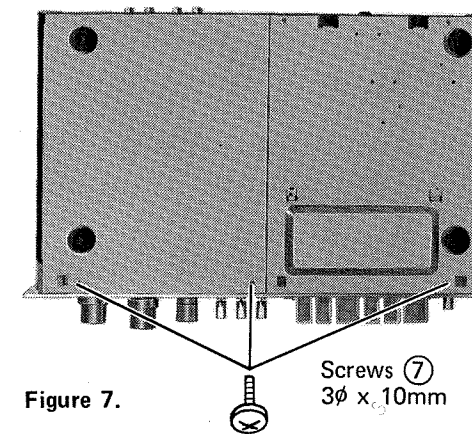

Figure 7.
6. Remove three screws ⑦. See figure 7.